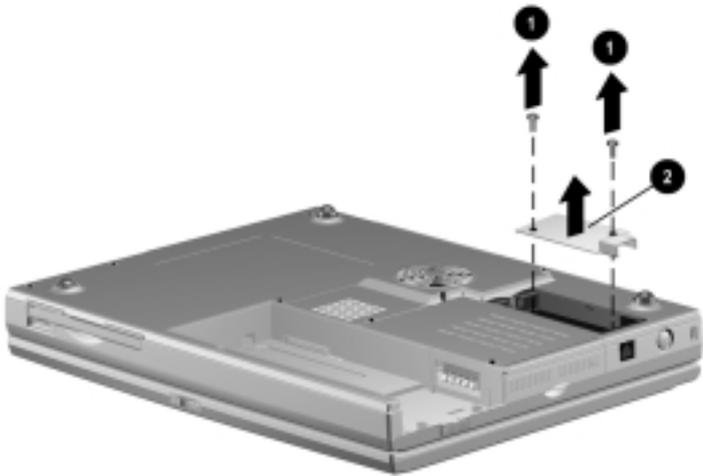

Figure 5-4. *Removing the Modem Shield*
6. Remove the two screws **1** securing the modem shield to the base assembly (Figure 5-4).